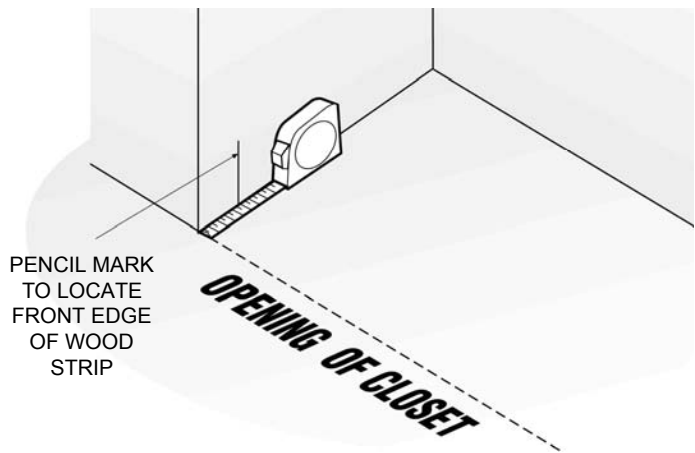

Figure 2
- C. Find the correct offset measurement using the **Offset Measuring Table** on Page 3 (B Measurement) for your particular installation. From the front edge of closet opening inward, measure using dimension from table and make a pencil mark on wall. Do this on both walls, i.e., right and left walls (See Figure 2).